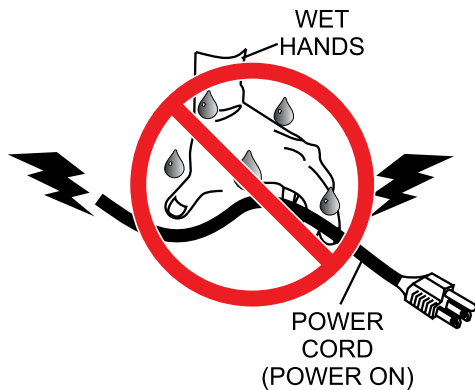

Figure 4. Power Cord (Wet Hands)
4. NEVER! grab or touch a live power cord (Figure 4) with wet hands, the possibility exists of electrical shock, electrocution and even death.